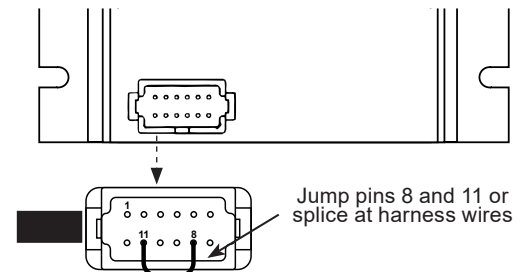

Figure 7: Reuse Existing FLD wire for IGN by Jumping Harness Sockets
- If replacing **Transtech** regulator: remove regulator harness connector and jumper pins 8 and 11 (see Figure 7). Tape or cable tie jumper securely in place. Alternate method is to splice harness wires from pins 8 and 11 together.